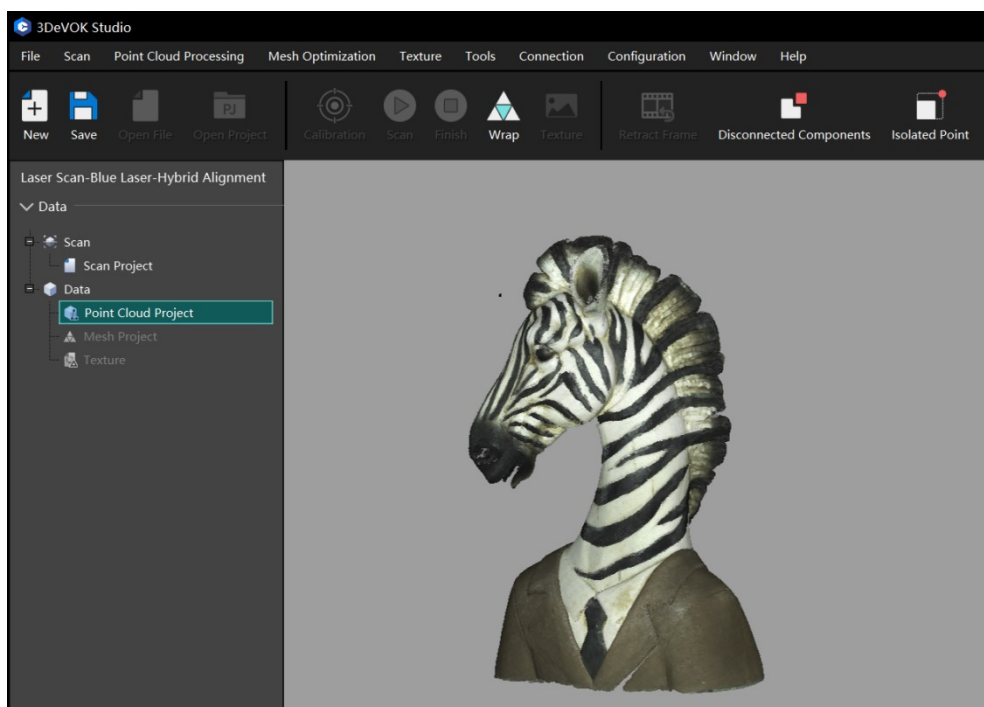

Figure 8-3 Point Cloud Interface of 3DeVOK Studio
3. The interface will automatically switch to the Point Cloud interface, and the generated point cloud model will be displayed, which is shown in Figure 8-3.
The color map quality comparison of the same object at different resolutions is shown in Figure 8-3.